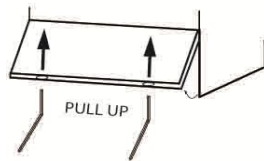

Fig.8
- 1- Extract the front panel with Allen tool or similar by inserting it inside the holes on the inferior part of the panel. Pull up the panel carefully. For Hoodtype models, unscrew the two screws located on the bottom of the panel. (Fig.8)
Setting of rinse aid dispenser is performed acting on the screw accessible after removal of front panel, under the tank door. (see Fig.8)